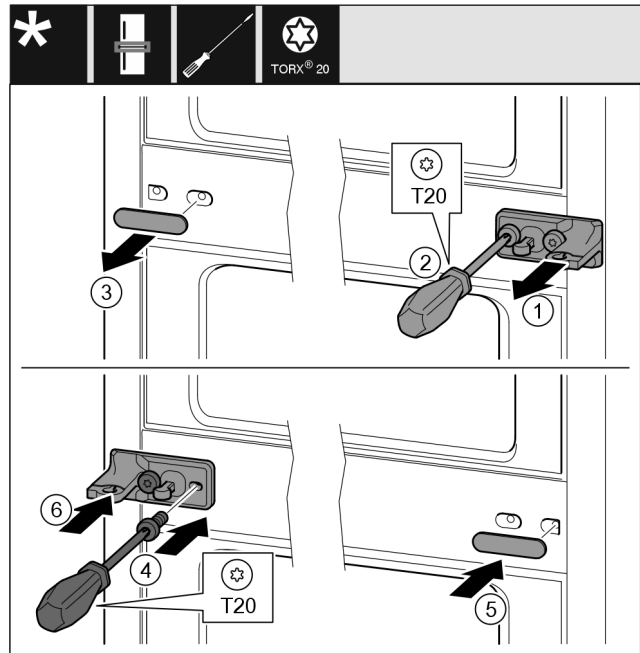

Fig. 34
- ▶ Remove the washer Fig. 34 (1).
- ▶ Unscrew screws Fig. 34 (2) with screwdriver.
- ▶ Remove the cover Fig. 34 (3) carefully.
- ▶ Turn the bearing block with film Fig. 34 (4) by 180° and screw it tight on the other side.
- ▶ Turn the cover Fig. 34 (5) by 180° and attach to the other side.
- ▶ Slide on the washer Fig. 34 (6) from the front.